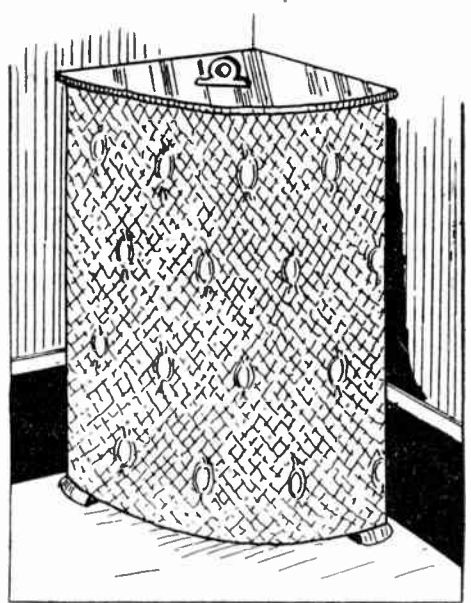

Fig. 3 - The lid, feet and handle
At this stage cut the lid, shown at (D) in Fig. 3. This can be cut from plywood, or good quality hardboard might serve. Lay the lid upside down on the bench, and stand the carcase of the basket on it, also upside down. See the lid extends beyond the basket about $\frac{1}{2}$ in. each side.
Washing day is always a hard day when it comes to carrying the wet clothes in and out of doors and chasing the peg bag. The workmanlike garden washing day trolley seen in Fig. 3 is made from a drawer from an old chest of drawers. It is cleaned up, with handles added at each end and lined with some light American cloth, put on with paste.